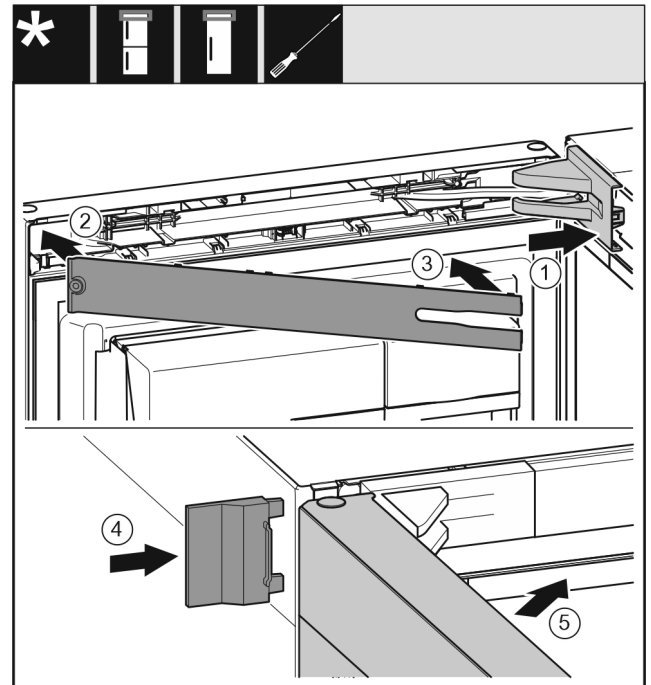

Fig. 49
- Position the bearing bracket cover and engage it. If necessary push it apart carefully. Fig. 49 (1)
- Place on the panel. Fig. 49 (2)
- Swing in the panel and latch it into place. Fig. 49 (3)
- Slide on the outer cover. Fig. 49 (4)
- Close the upper door. Fig. 49 (5)